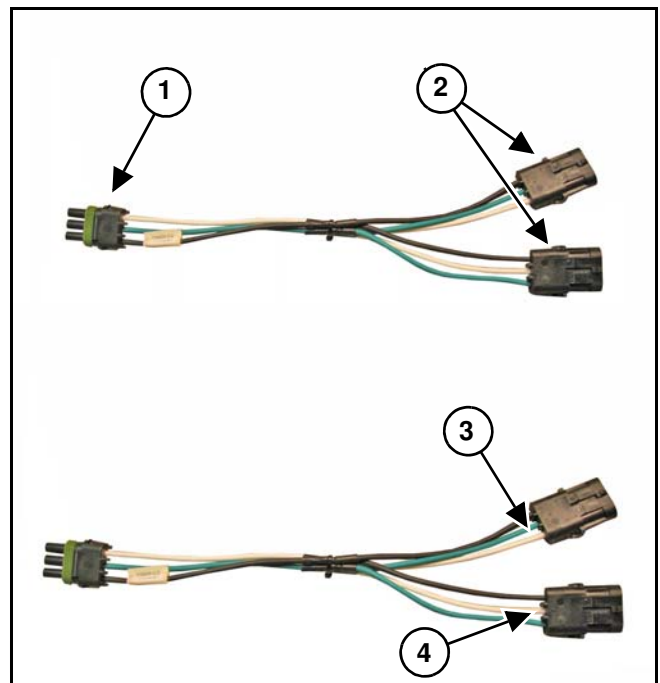

Figure 12
[Figure 12] - The 3-Pin Y-adapter harness is required when locating a valve driver on the center of a boom section. The 3-Pin tower end (1) will connect to the valve driver.